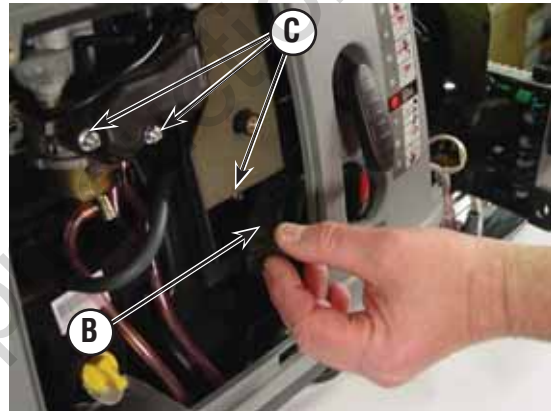

Figure 29
4. Remove breather filter (B, Figure 29) to expose the air cleaner assembly screw. Loosen and remove screws (C) to remove air cleaner assembly.